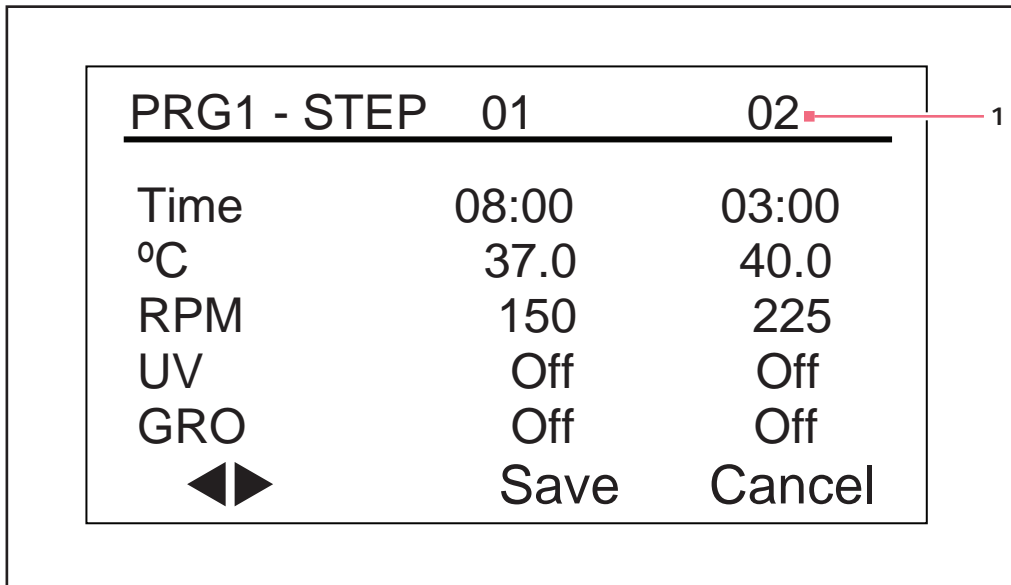

Fig. 9-12: Program 1, Step 2
- Turn the knob to highlight the time setting (00:00 in the sample screen, (see Fig. 9-12 on p. 59)), then click the knob in. The field will flash.
- Turn the knob until the desired running duration for this step (from 00:01, which means one minute, to 99:59) appears, then click the knob in to save the setting. We will set *Step 1* time to *8 hours* for this example (see Fig. 9-12 on p. 59).
- To set the temperature desired (°C from 4.0 to 80.0) for the time period you have set, turn the knob (left to decrease, right to increase). When the desired value appears, click the knob in to save the setting. We will set *Step 1* temperature to *37.0 °C* (see Fig. 9-12 on p. 59).
- Turn the knob to select the desired shaking speed (25 to 400 RPM) for this time period, then click the knob in to save the setting. We will set *Step 1* speed to *150 RPM* (see Fig. 9-12 on p. 59).
9. If you do not have the optional *UV* lamp, skip this step. If you have the UV lamp (default setting is *Off*) and you wish to have it on during the time period you have set, use the control knob to select the field, click the knob to select the field (it will flash), turn the knob to select *On*, then click the knob in to save the setting. In our sample *Step 1* (see Fig. 9-12 on p. 59), however, *UV* remains *Off*.
10. If you do not have the optional *GRO* lamps, skip this step. If you have the photosynthetic lamps (default setting is *Off*) and you wish to have them on during the time period you have set, use the control knob to select the field, click the knob to select the field (it will flash), turn the knob to select *On*, then click the knob in to save the setting. In our sample *Step 1* (see Fig. 9-12 on p. 59), however, *GRO* remains *Off*.
11. To program *Step 2* (see Fig. 9-12 on p. 59): use the control knob to highlight the arrows at the bottom left of the screen. Click the knob to make the arrows flash, then turn the knob to the right until *Step 2* appears. Click the knob in to work in this screen, and repeat Steps 3 – 10. Whatever step is shown on the right-hand side of the display is settable ((see Fig. 9-12 on p. 59), it is *Step 2*). To scroll between steps, select the arrows (bottom left), then turn the control knob clockwise or counterclockwise, then select the desired step.